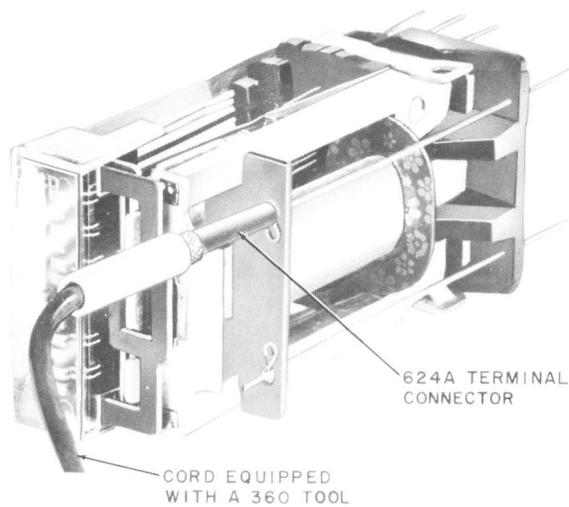

Fig. 10—Connecting to Winding Terminal of the AF-, AG-, AJ-, and AL-Type Relays (Wire Spring)
2.03 Connections to Winding Terminals of AF-, AG-, AJ-, AK-, AL-, and AM-Type Relays (Wire Spring) From Apparatus Side of Frame (Front of Frame): Fig. 10 and 11.